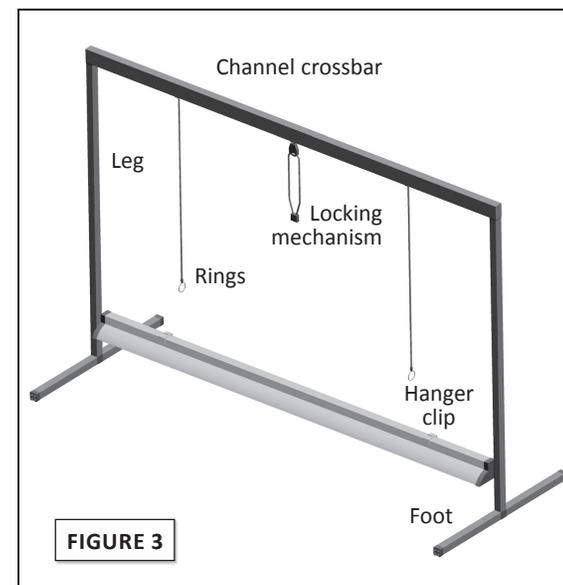

FIGURE 3
- 4 Set the fixture* under the channel crossbar as shown in Fig. 3 and pull down the hanger cables. Attach the hanger clips on the T5 fixture to the rings on the suspension cables. Plug the power cord of the fixture into a 120V electrical outlet. We recommend a grounded timer (item # TM01015) to automate your light cycles.
- 5 You can regulate the height of your light fixture by using the pull cord and locking mechanism (see Fig. 3).